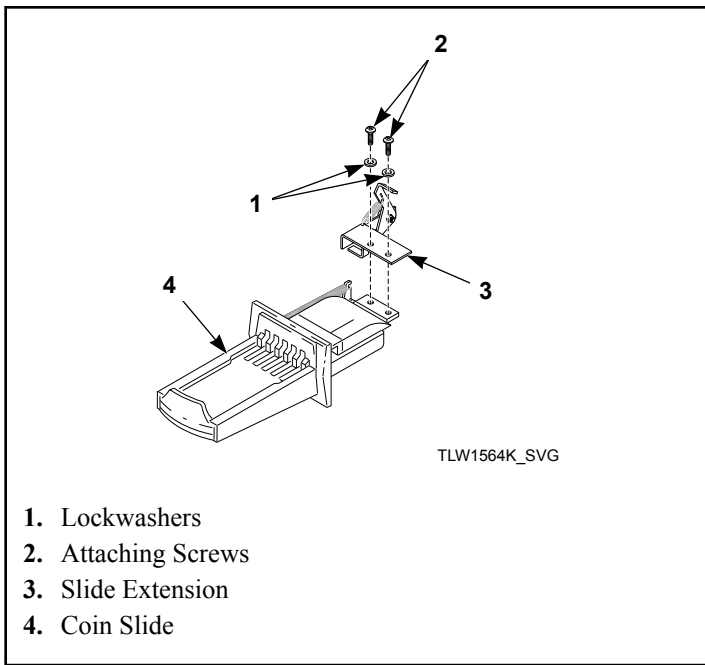

Figure 37
1. Install slide extension onto top of coin slide using two remaining screws and lockwashers. Refer to *Figure 37*.